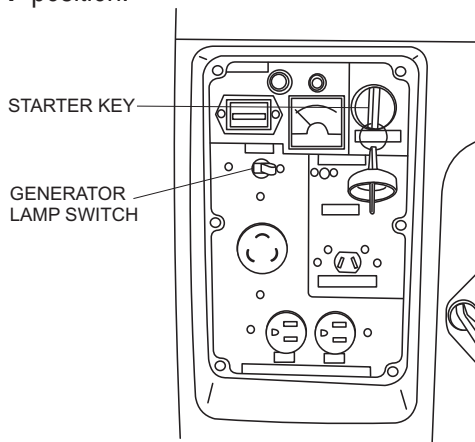

Figure 19. GeneratorLamp Switch
1. Make sure the generator lamp switch (Figure 19) is in the **OFF** position.
5. Place the generator lamp switch (Figure 19) to the ON position.
1. Place the generator lamp switch (Figure 19) to the OFF position.